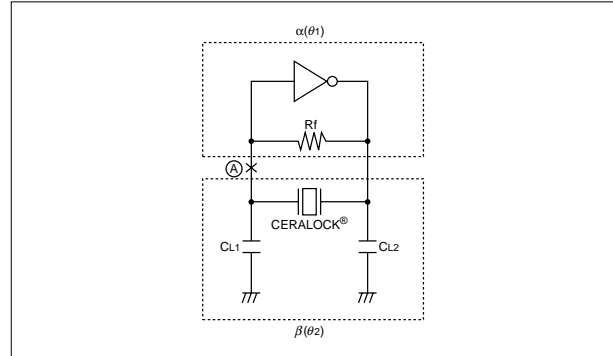

Fig. 2-8 Basic Oscillation Circuit with inverters
Fig. 2-8 shows the basic oscillation circuit with inverter. In open loop circuit by cutting at (A) point, it is possible to measure loop gain G and phase shift θ .